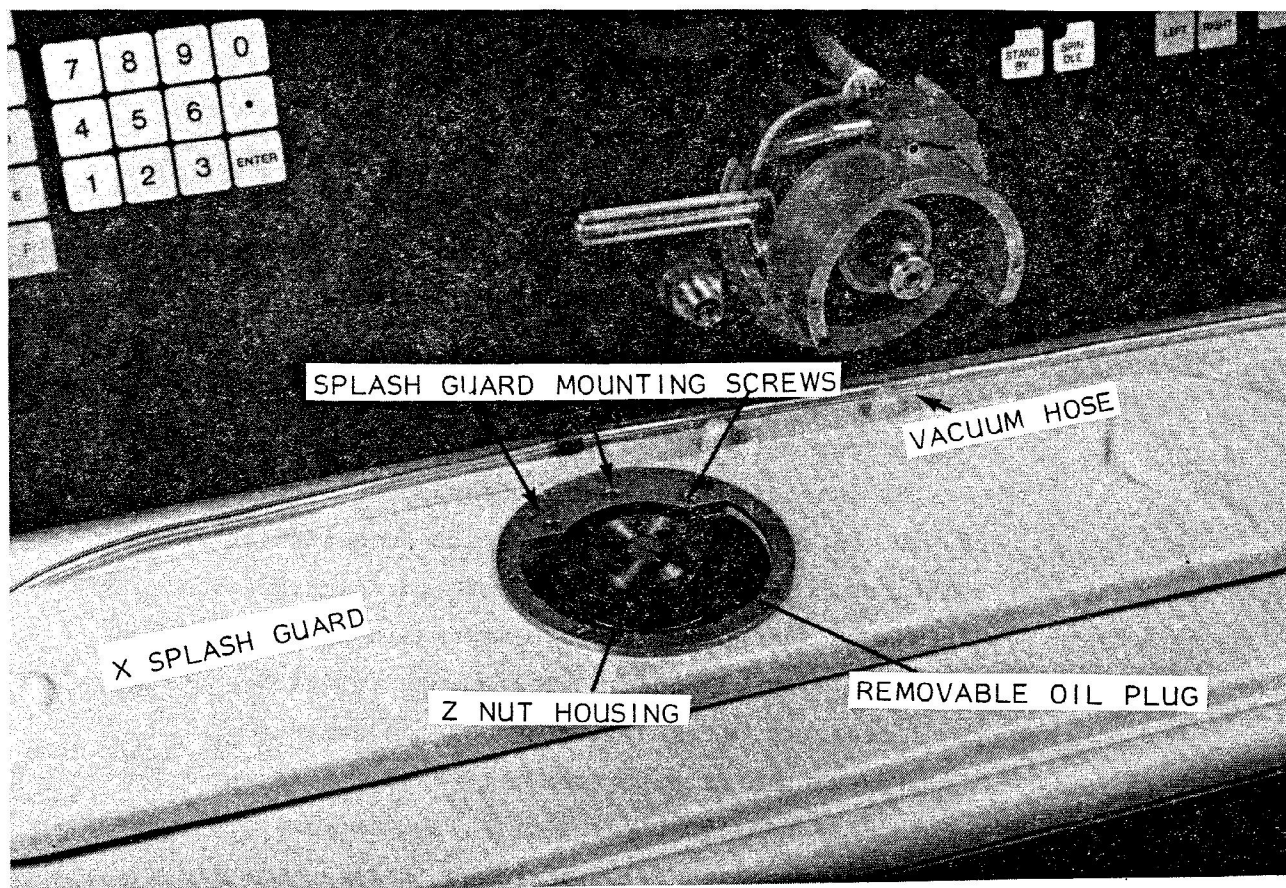
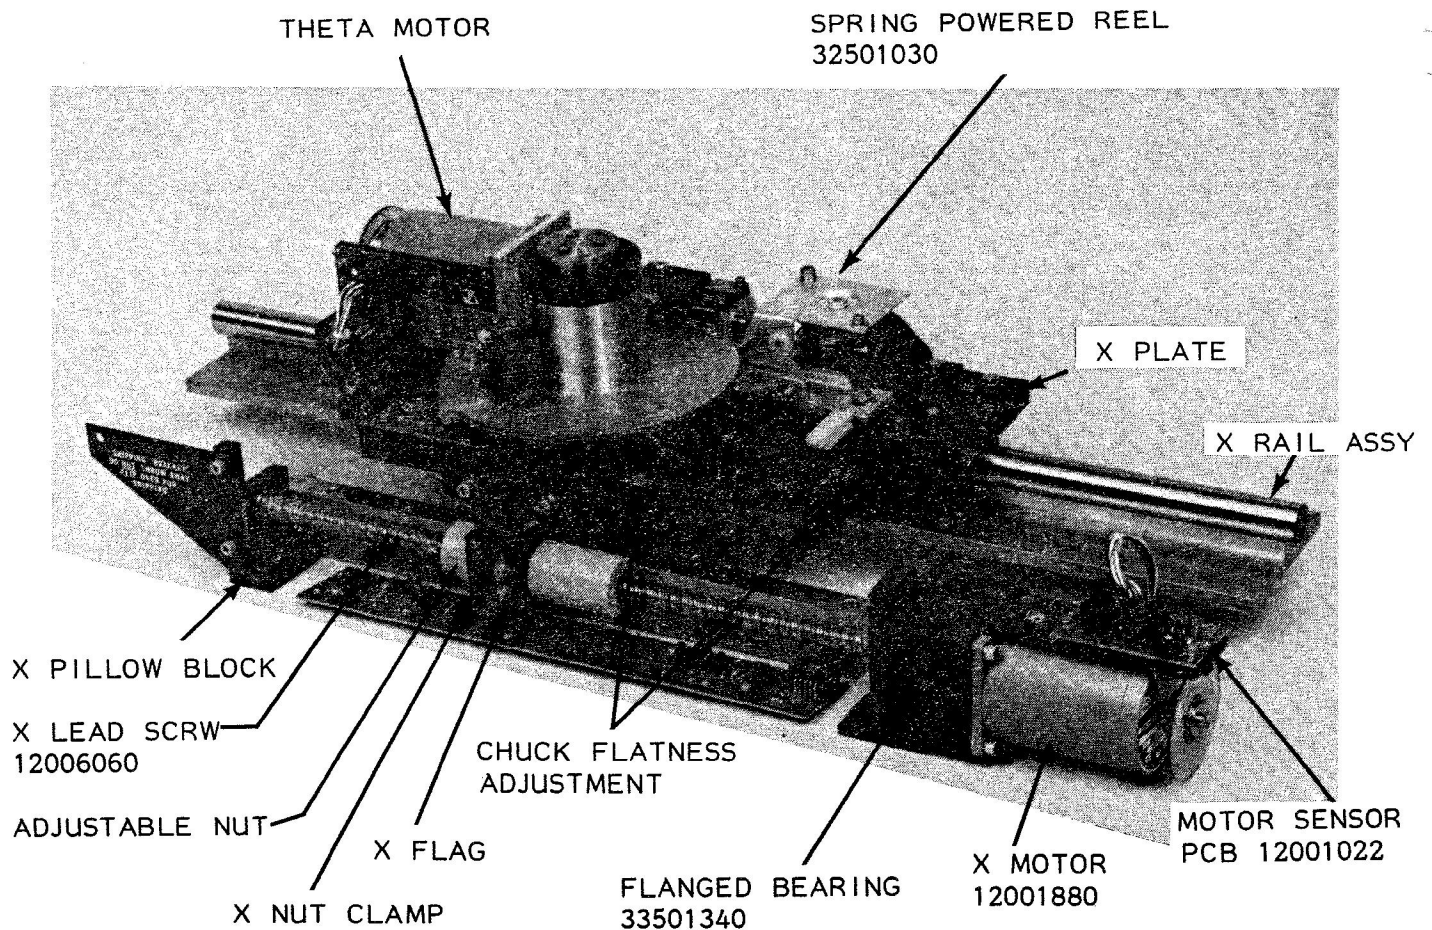

FIGURE 2-6
FIGURE 2-10
2-12 "X" STAGE DETAILED DESCRIPTION (Fig. 2-6) (Fig. 2-10)
2. "X" Lead Screw Assembly Description (Fig. 2-10)
3. "X" Plate Assembly Description (Fig. 2-10)
2-19 BALL BUSHING SLIDE "X" STAGE PARTS REPLACEMENT (Ref. Fig. 2-10)
The bushings must be adjusted to the guide rail prior to installation. To perform this adjustment, it will be necessary to remove the bushing pillow blocks from the "X" plate. See Figure 2-10 page 40
To replace the leveling roller, it is necessary to remove the leveling roller holder from the "X" plate. Access to the leveling roller holder screws are from the top (Fig. 2-10).